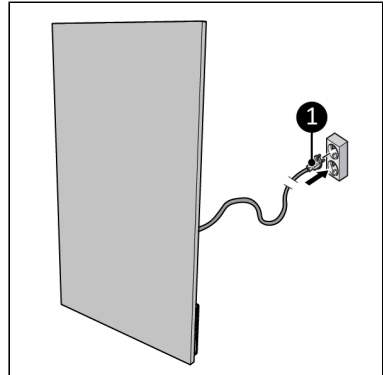

Figure 42.
2. Insert the power plug (Figure 42, pos. 1) into an earthed wall socket that is easily accessible. Use an earthed wall socket with a minimum power of 1000 Watt.